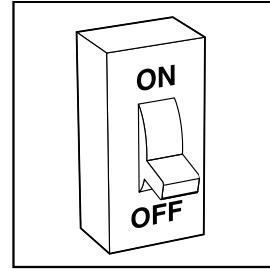

Fig. 6 - Turn Off Electrical Supply
4. Remove outer furnace door. (See Fig. 6.)